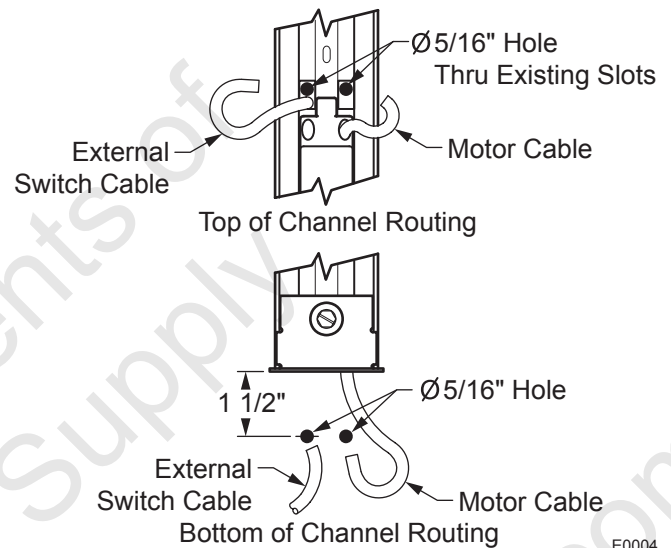

Figure 10. Cable Pass Thru Drill Pattern.
2.1 (Refer to Figure 10) Drill two 5/16" holes through the vehicle wall for the motor cable and exterior switch cable. Move the cables out of the way to avoid damage while drilling.